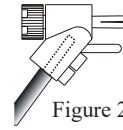

Figure 2
2. Attach the previously prepared bare wire cable ends into the banana plugs and secure the connections. Refer to figure 2.
- Attach the prepared bare wire cable ends into the banana plugs and secure the connections. Refer to figure 2.